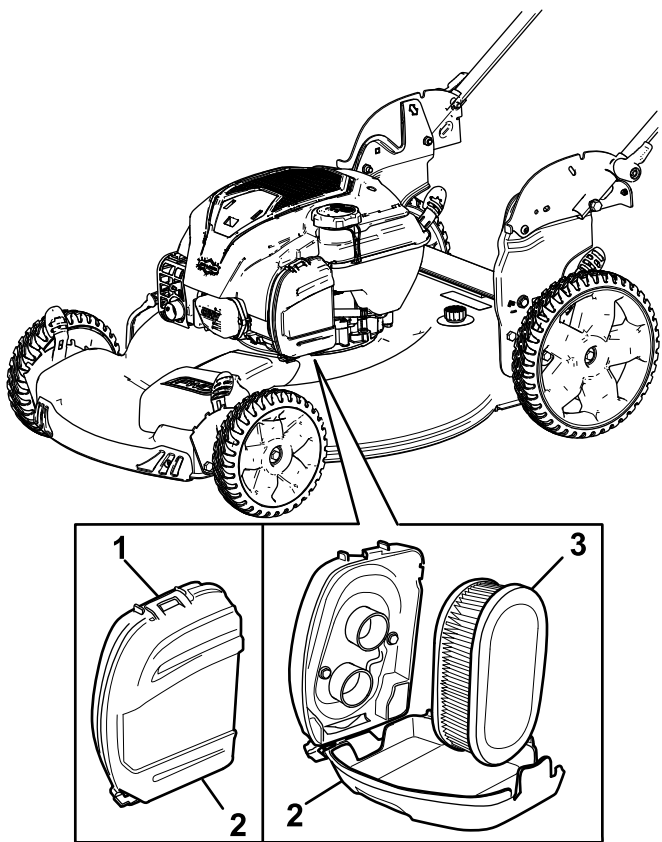

Figure 23
- 1. Unclip the top of the air-filter cover (Figure 23).
- 2. Remove the air filter (Figure 23).